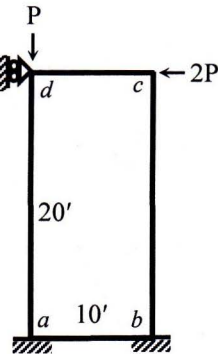

Fig. 6
- Use Stiffness Method (neglecting axial deformations) to calculate the value of applied load *P* required to cause buckling of the frame *abcd* loaded as shown in **Fig. 6** [Given: $EI = 40 \times 10^3$ k-ft²; consider axial force at *ab*, *bc*, *cd* and *da* is 0, 0, 2*P* and *P* (in kip) respectively].